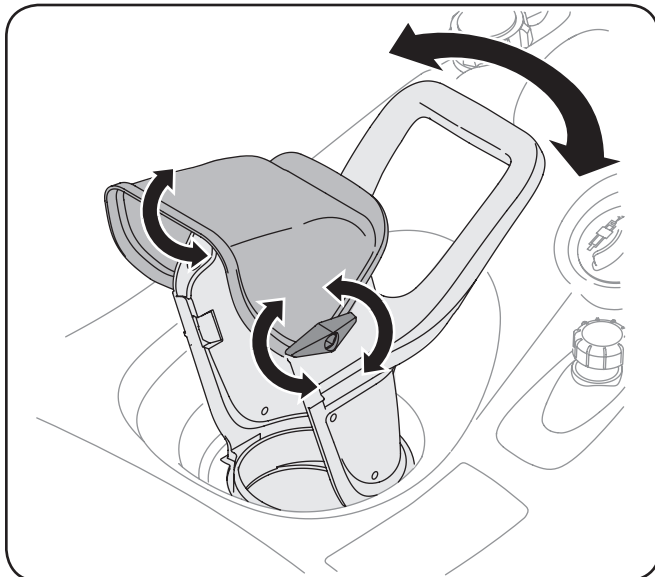

Figure 3-4
2. Position the chute assembly opening by using the Chute Handle to throw the snow in the desired direction. See Fig. 3-4.